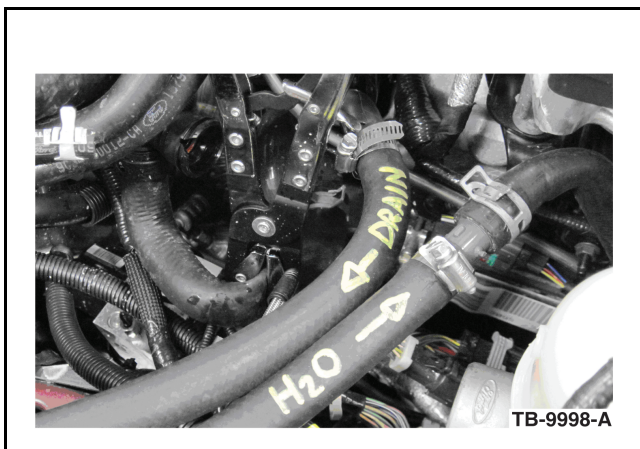

Figure 8 - Article 10-7-5
10. Install pinch-off pliers onto degas bottle supply hose. (Figure 8)